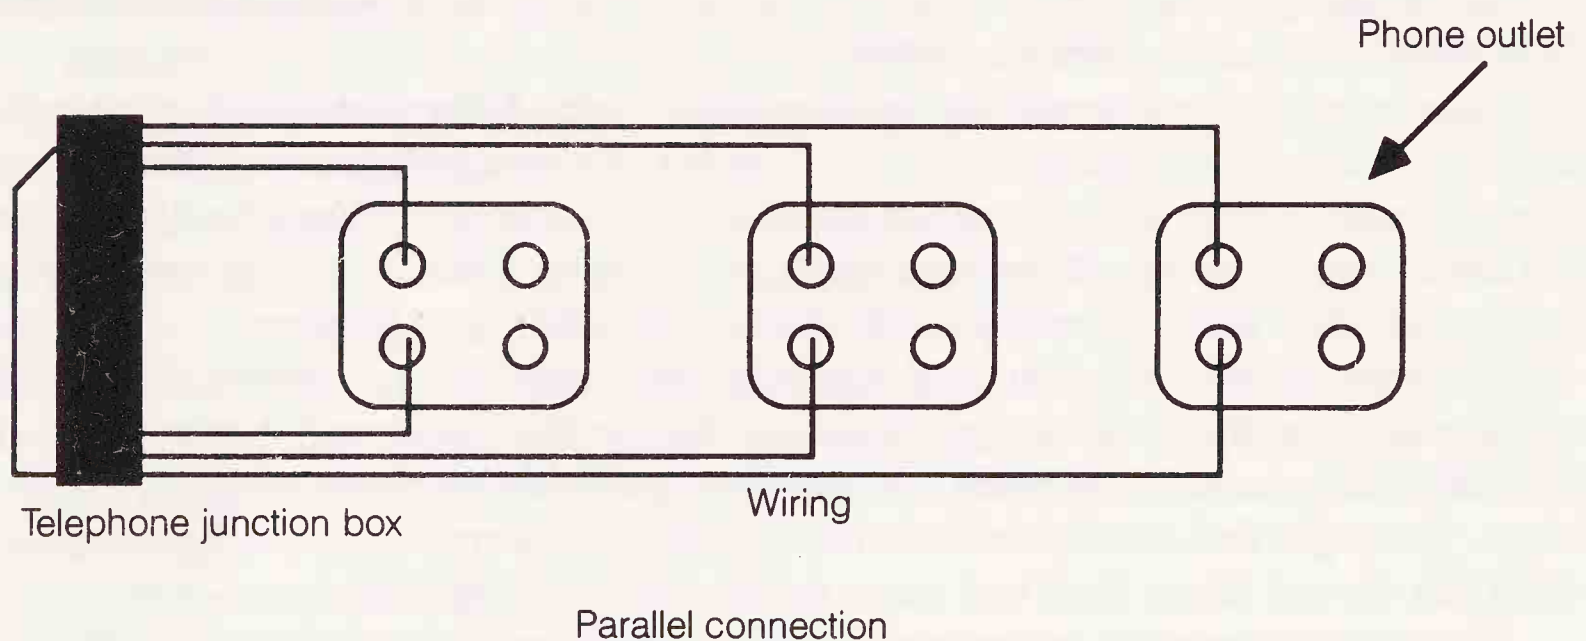

Fig. 7-4. Phone extension outlets wired in parallel.
- Outlets in parallel (FIG. 7-4) are connected by separate lengths of wires to the junction box (this box can be the one that connects your line to the telephone company's or it can be some internal distribution box inside your home or office). A break that leads to one outlet will not affect the others.